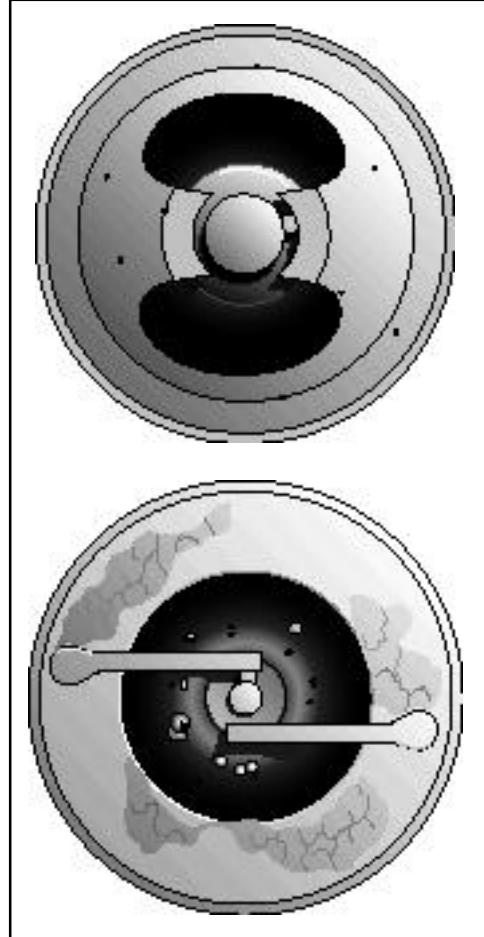

FIGURE 8-6e. Typical spark plug with bridged electrodes.
c. Bridged Electrodes. Occasionally, free combustion chamber particles will settle on the electrodes of a spark plug and gradually bridge the electrode gap, resulting in a shorted plug. Small particles may be dislodged by slowly cycling the engine as described for the oil-fouled condition; however, the only remedy for more advanced cases is removal and replacement of the spark plug. This condition is shown in figure 8-6e.